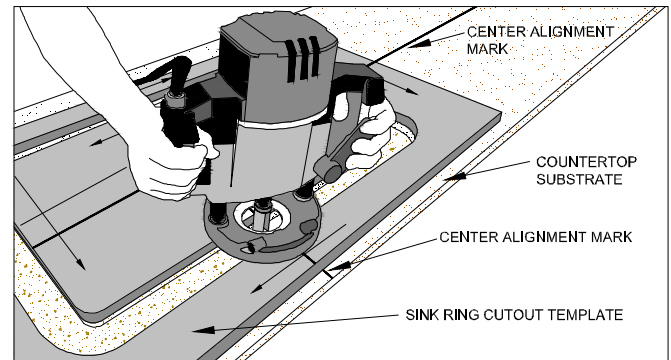

Figure 2A
- Gradually remove all substrate between the two part template. (FIG. 2A)